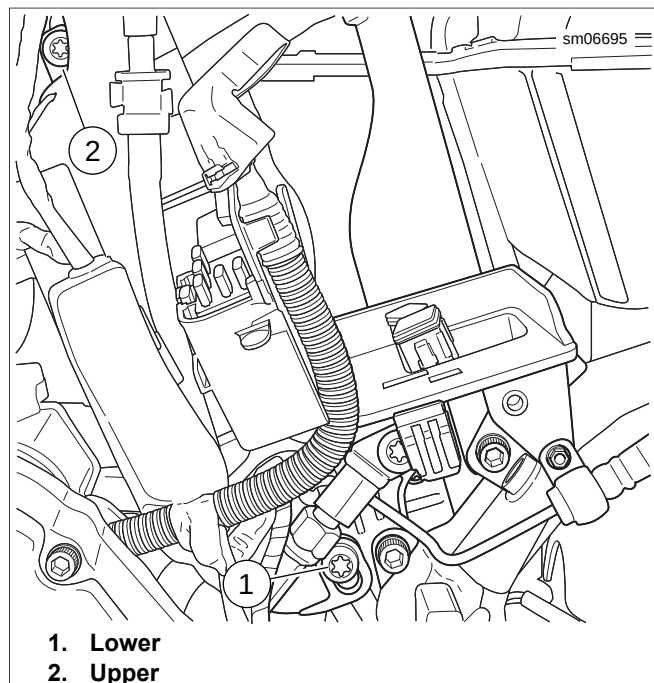

Figure 6-108. ECM Caddy Fasteners
15. See Figure 6-108. Remove the ECM caddy.